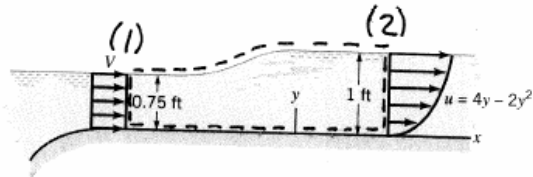

FIGURE P5.19
5.19 As shown in Fig. P5.19, at the entrance to a 3-ft-wide channel the velocity distribution is uniform with a velocity V . Further downstream the velocity profile is given by $u = 4y - 2y^2$, where u is in ft/s and y is in ft. Determine the value of V .